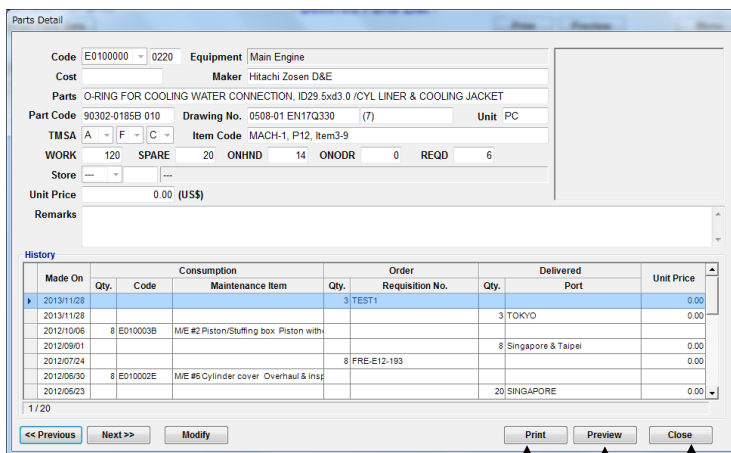

Fig.9-6 Parts Screen
(17) “Parts Screen ”(Fig.9-6) is displayed.